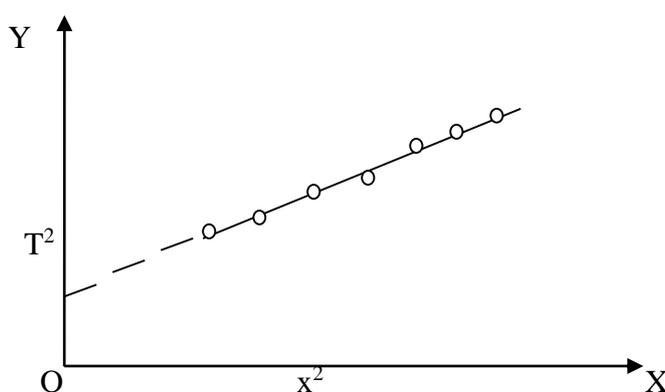

Figure 3
- (vi) Now we plot a graph between x^2 on X-axis and corresponding values of T^2 on Y-axis. The plotted graph is shown in figure 3.